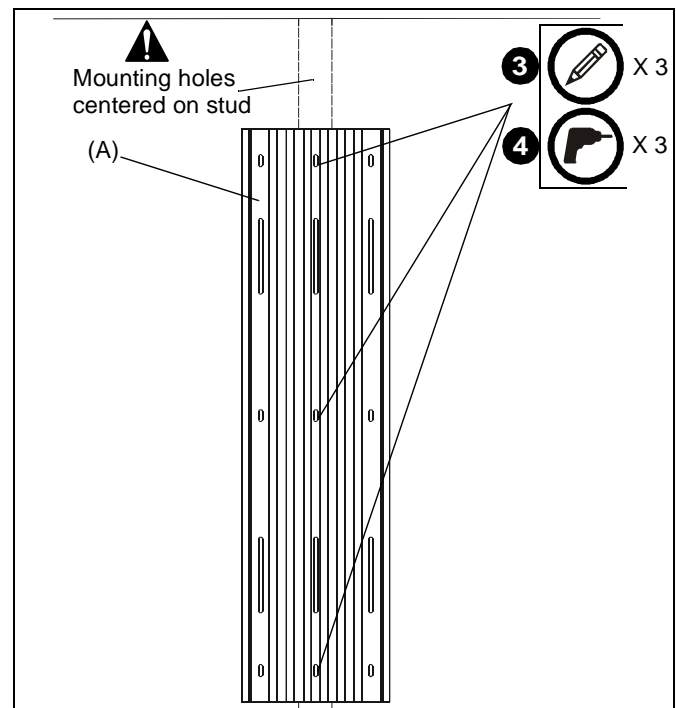

Figure 15
2. Align the middle mounting holes on mount with stud making sure mounting holes are centered on stud. (See Figure 15)
3. Using wall track accessory (A) as a template, mark location of three mounting holes on wall. (See Figure 15)
4. Drill three 7/64" holes. (See Figure 15)